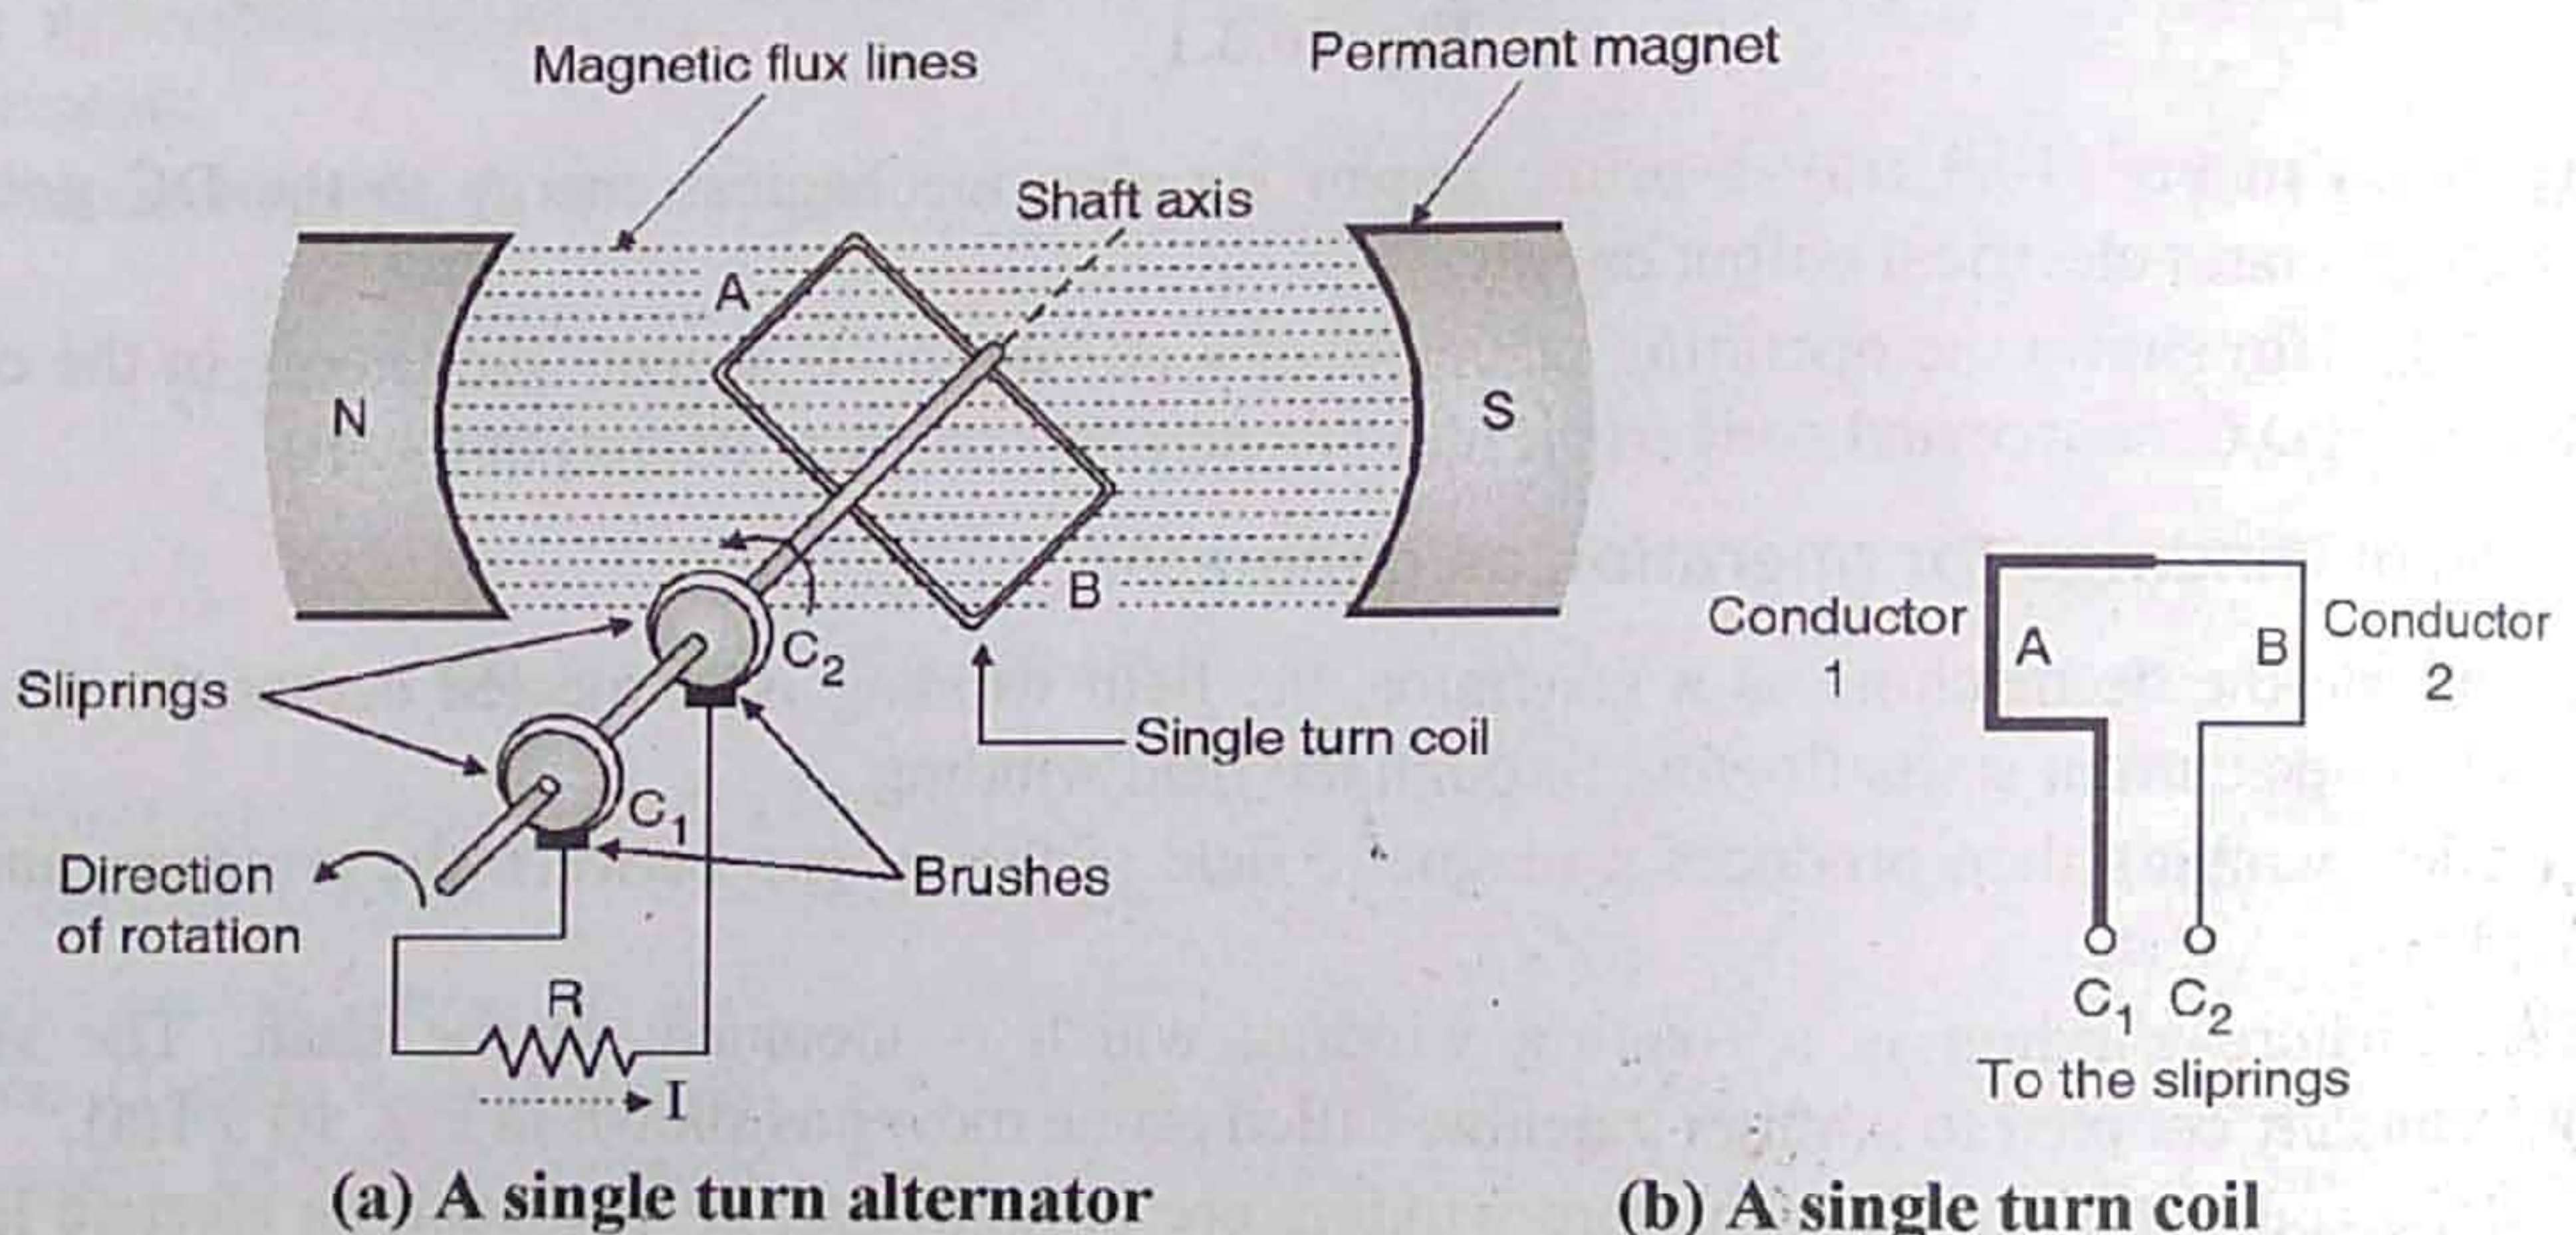

Fig. 10.4.1
- The construction of single turn alternator is shown in Fig. 10.4.1(a). This alternator consists of a permanent magnet with two poles N and S, and a single turn rectangular coil made up of some conducting material (aluminium or copper).
- As shown in Fig. 10.4.1(b) the single turn coil is made from two conductors A and B. These conductors are connected to each other on one end whereas their other ends ( $C_1$  and  $C_2$ ) are connected to the slip rings mounted on the shaft.
- Electrical connections are made to the brushes. As shown in Fig. 10.4.1(a) a resistance  $R$  is connected between the two brushes.
- Refer Fig. 10.4.1(b). This single turn coil is rotated in the anticlockwise direction in the flux produced by the permanent magnet.